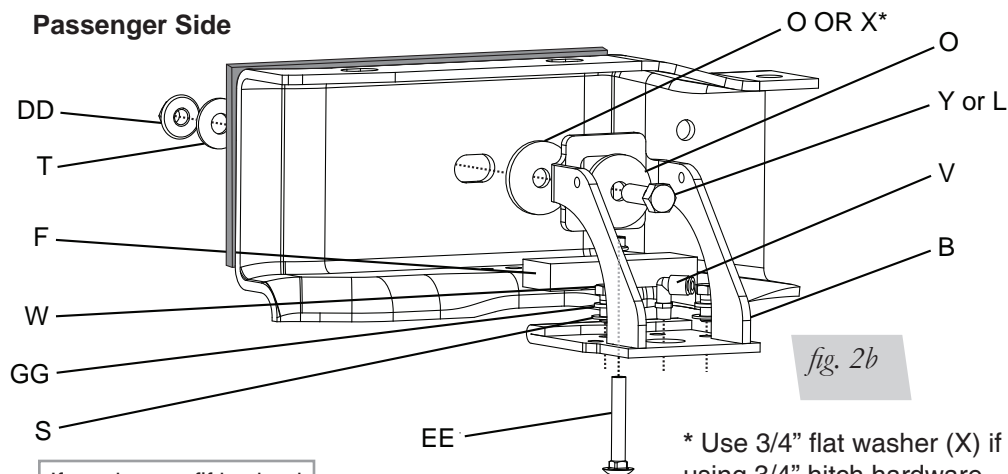

fig. 2b
2. Upper bracket 07993 (C) goes onto the driver side frame rail (fig. 2a) and upper bracket 07148 (B) goes onto the passenger side frame rail (fig. 2b). Set the assemblies into position under the frame., above the axle, and insert the carriage bolt (EE) through the exiting jounce bumper hole for both sides.
2. Insert a large 1/2" flat washer (T) or 3/4" flat washer (X) if using 3/4" existing fifth wheel hitch hardware, between the upper bracket and frame. It may be necessary to pry the upper bracket away from the frame slightly to make it easier to insert.
3. Attach the upper bracket brace by using the existing hardware from the fifth wheel bracket installation that was previously removed, or the 1/2-13 X 1.50" bolt (Y) if you have the in bed hitch option from Ford, or the 1/2-13 X 3" bolt (if no fifth wheel or in bed hitch option
was used) and a large ½" flat washer (T). Insert the bolt and washer through the upper bracket, through the large washer between the bracket and frame from the inside out and cap with a flat washer (T) and ½" serrated flange lock nut (DD) (fig. 2b). Tighten securely.